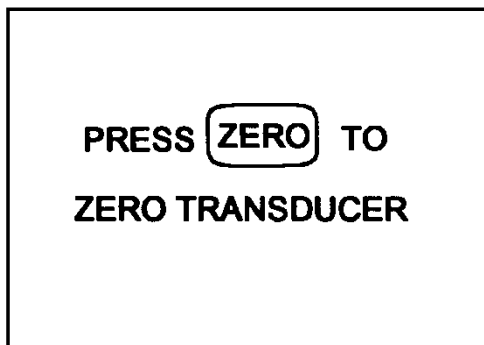

Figure 9
- 13.4.2.4 Verify that the display changes to "PRESS ZERO TO ZERO TRANSDUCER" per Figure 9.